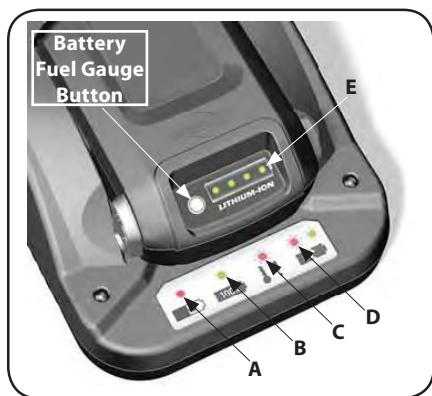

Figure 4-10
- Red light (A), Figure 4-10) indicates battery pack is charging normally.
- Green light (B) indicates battery pack is fully charged.
- FLASHING red light (C) indicates battery pack is either too hot or too cold and will not accept a charge. Leave battery pack connected and when normal operating temperature is reached it will automatically start charging.
- FLASHING red/green lights (D) indicate that battery pack will not charge and must be replaced. See Lithium Ion Battery Pack Disposal section.
To check available charge, press the Battery Fuel Gauge button. The display lights (E), Figure 4-10) will indicate the approximate amount of charge remaining in battery pack.
As Required - To check available charge, press the Battery Fuel Gauge button and charge if required. See Figure 4-10. Refer to the **Battery Fuel Gauge** section on page 14.